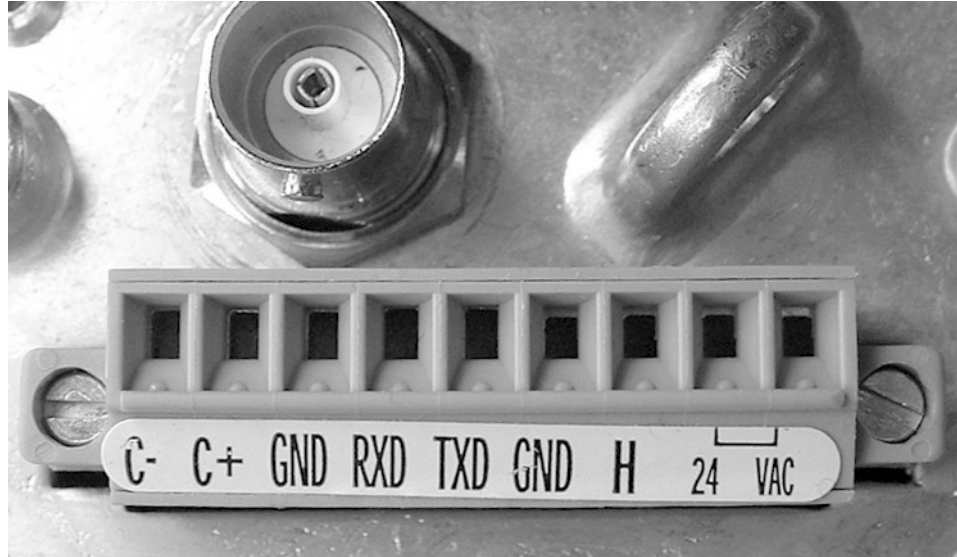

Figure 1.3 Detail of the 9-pin Connector
3. Remove the wire that is connected to the RXD connection (blue) on the prewired 9-pin connector on the top of the AutoDome. See *Figure 1.3* for a detailed view of the 9-pin connector and the function of each pin.
9. Remove the four (4) screws from the top of the AutoDome and carefully remove the plate.